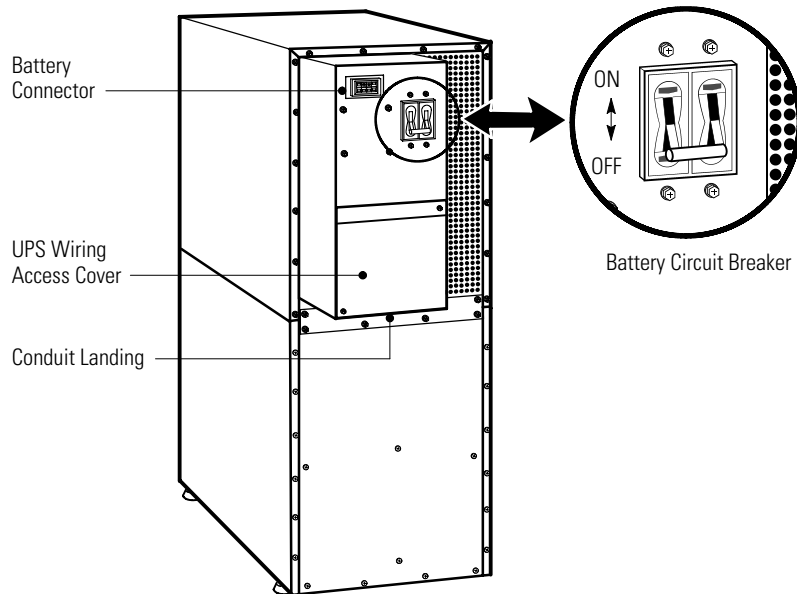

Figure 9. UPS Rear View (2-High Shown)
10. Verify that each UPS battery circuit breaker is in the OFF position (see Figure 9).
11. From each UPS, remove the UPS wiring access cover and retain (see Figure 9).